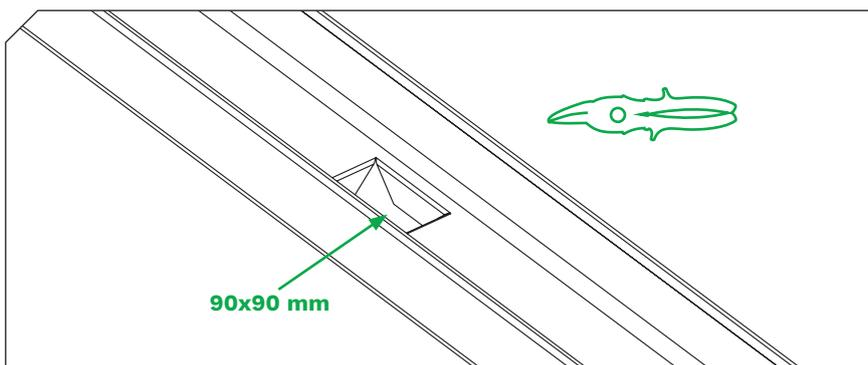

Figure 18
- 7.1 Cut a hole in the bottom of the gutter with the dimensions of **90 x 90 mm (Figure 18)**
- 7.2 Bend the edges of the hole vertically downwards. **(Figure 18)**